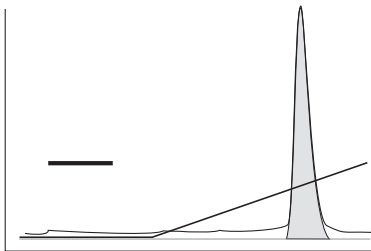

Fig. 9. Removal of leached protein A from mouse IgG, monoclonal by cation exchange chromatography on S Sepharose High Performance.
- Cation exchange chromatography is an effective tool for removing residual protein A, especially when the particular monoclonal has strong cation exchange binding characteristics. Perform the run at a pH in which the antibody is known to dissociate from protein A, see Fig. 9. Protein A binds poorly to cation exchangers and elutes early in the gradient. The relative speed, capacity and scalability of this technique makes it preferable to size exclusion chromatography at low pH.